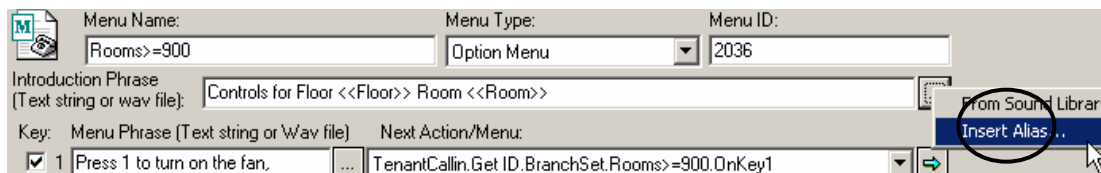

Figure 9.32. Adding an Alias to the Menu Configuration
- Click the ... button next to the appropriate field (the **Introduction Phrase** field is used here as an example) and select **Insert Alias** from the pop-up menu, as shown in Figure 9.32.